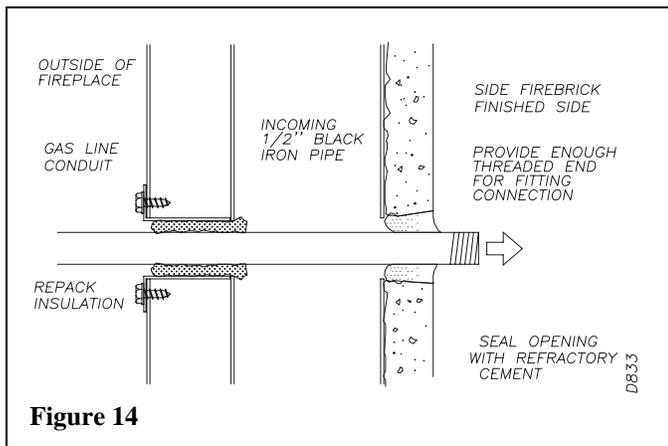

Figure 14
STEP 3: Run a 1/2" black iron gas line into the fireplace through the rear at 11 1/4" from the floor and through gas line conduit sleeve. Provide sufficient gas line into fireplace chamber for fitting connection (see figure 14).